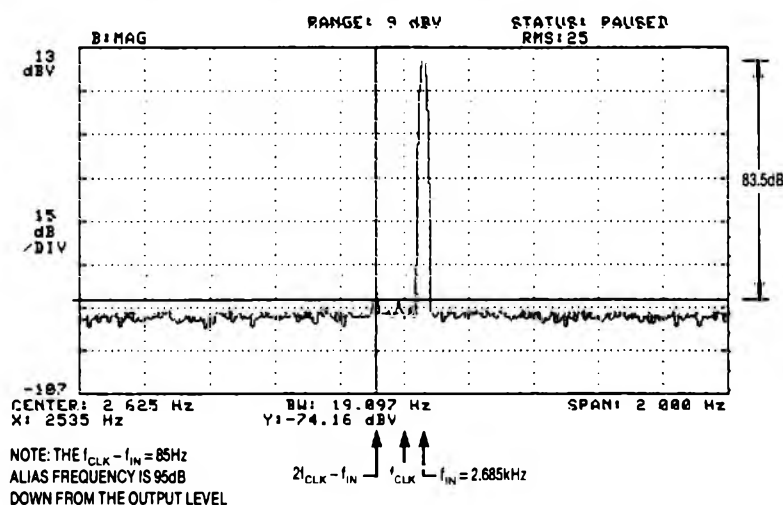

Figure 6A. Output Voltage Spectrum of 1/2 LTC1051 Operating as a Unity Gain Inverting Amplifier.
5. For unity gain inverting configuration, all the alias frequencies are 80dB to 84dB down from the output signal, Figures 6A, 6B. Combined with excellent THD under wide swing, the LTC1051/LTC1053 op amps make efficient unity gain inverters.